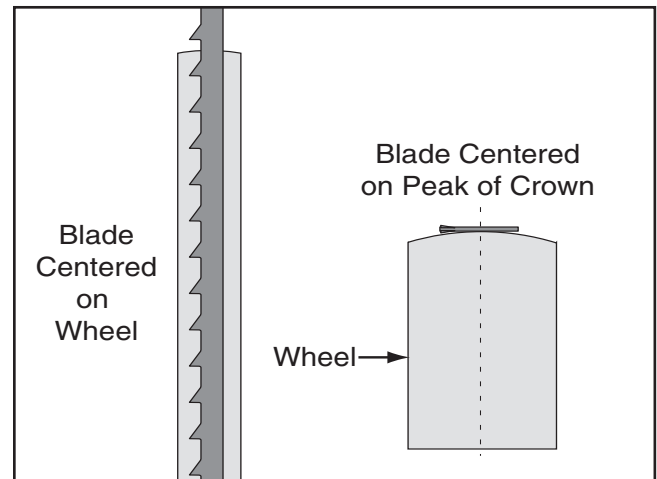

Figure 13. Center tracking profiles.
5. Spin upper wheel by hand at least three times and watch how blade rides on the crown of the wheel. Refer to **Figure 13** for an illustration of this concept.